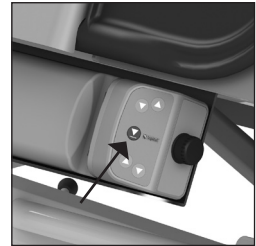

Figure 19 Emergency lowering Button.
If the handcontrol stop working and the trolley is in a raised position, it can be lowered using the emergency lowering button. This button is located on the controlbox (See figure 19).
- Press the emergency lowering button (See figure 19).